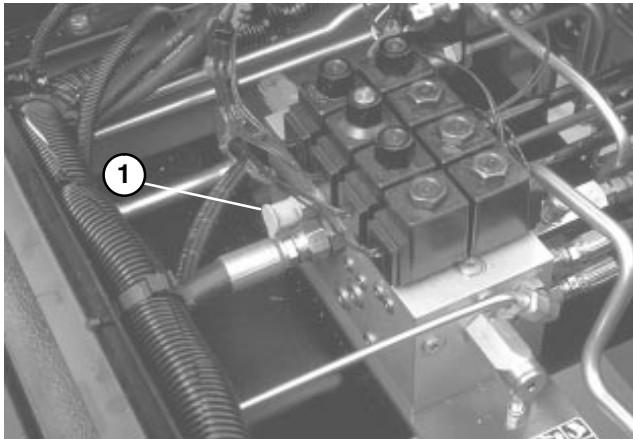

Figure 53
HYDRAULIC SYSTEM TEST PORTS (Fig. 53–55)
1. Test Port #1 (Fig. 53) is used to assist in trouble shooting the hydraulic circuit for the front cutting units and lift cylinders.